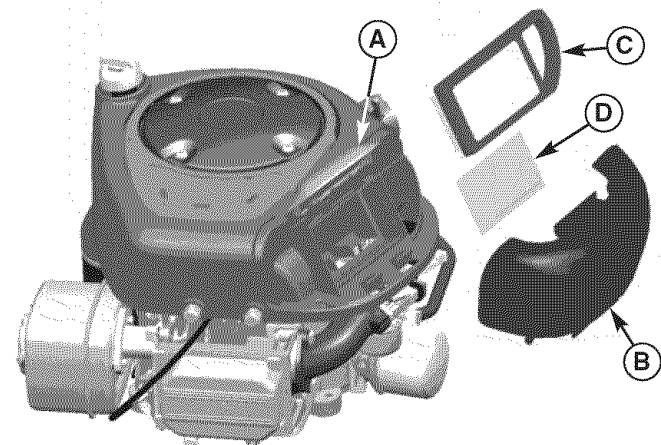

Figure 27. Air Filter Service - Briggs & Stratton Single Cylinder Models
2. Remove the cover (B). Remove the filter (C, Figure 27) and pre-cleaner (D).
3. Install the pre-cleaner (D) with the mesh side up. Install the filter (C) as shown.
4. Install the cover (B, Figure 27) making sure the tabs are inserted into their slots. Secure with the latch (A).